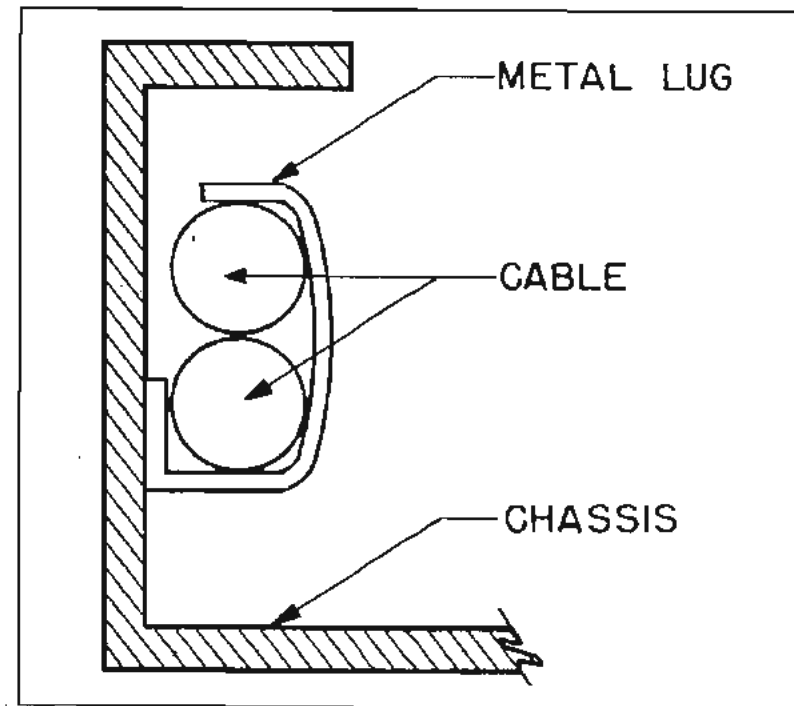

Figure 14-3
Step 14-X This completes the shielded cable wiring and the cables must now be secured in place with the metal lugs. Bend both insulated lugs (L7 and L8) up and over the cables as shown in Fig. 14-3.